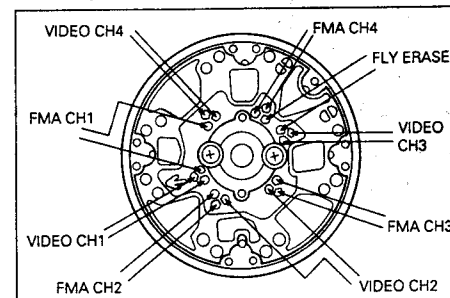

Fig. 2-3-1 Upper drum replacement (1)
1. Carefully unsolder at 18 points shown in Fig. 2-3-1 on the UPPER DRUM board.